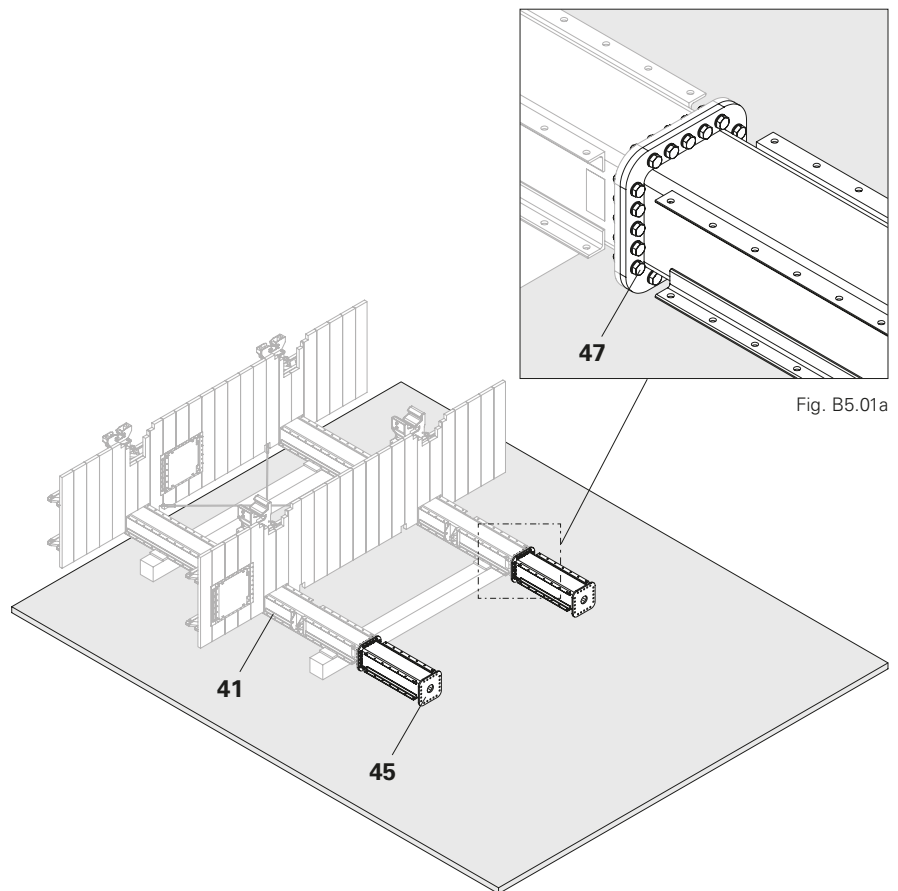

Fig. B5.01
1. Screw the Vertical Post Intermediate 1200 ACS (**45**) onto the head end of the Console Bracket ACS-G (**41**) with the HV-Bolt Set M20x75 (**47**). (Fig. B5.01)